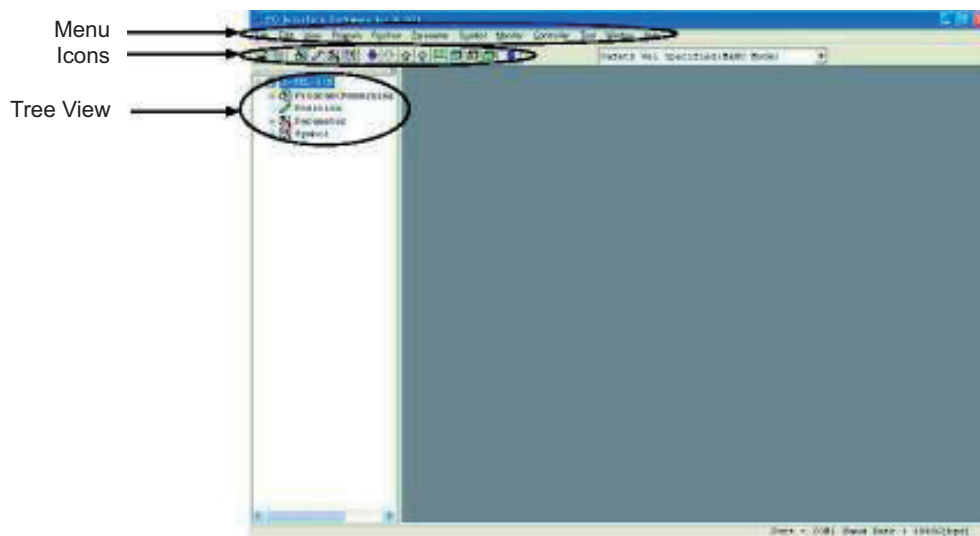

Fig. 3.1 Online Screen (X-SEL-J/K or TT Controller)
When this software has been started, the main window in Fig. 3.1 will open showing the menu items with icons on the tool bar in the case of the X-SEL-J/K or TT controller. The tree view appearing on the left side of the window can be displayed by clicking **View (V)** from the menu bar and then selecting **Tree View (T)**. (Initial window: Main menu)